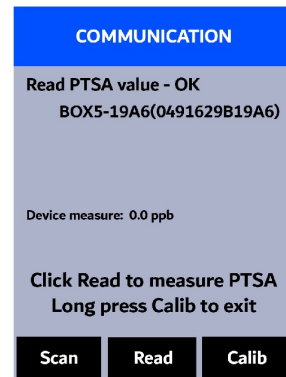

Figure 13.
9. When the connection is established, the SP-350 displays the latest PTSA measurement from the connected sensor (Figure 13).